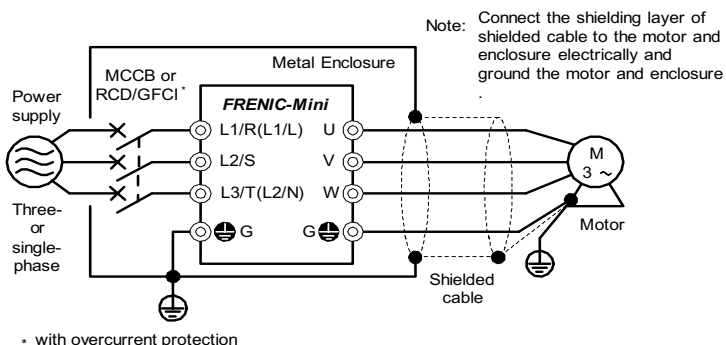

Figure 11.5 Installing the Inverter into a Metal Panel
- (4) If noise from the inverter exceeds the permissible level, enclose the inverter and its peripherals within a metal panel as shown in Figure 11.5.